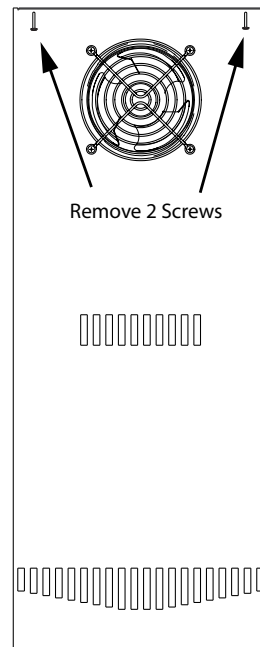

Figure 1: Remove 2 Screws
3. Remove 2 evaporator cover screws in the ceiling of the unit. (See Figure 1)